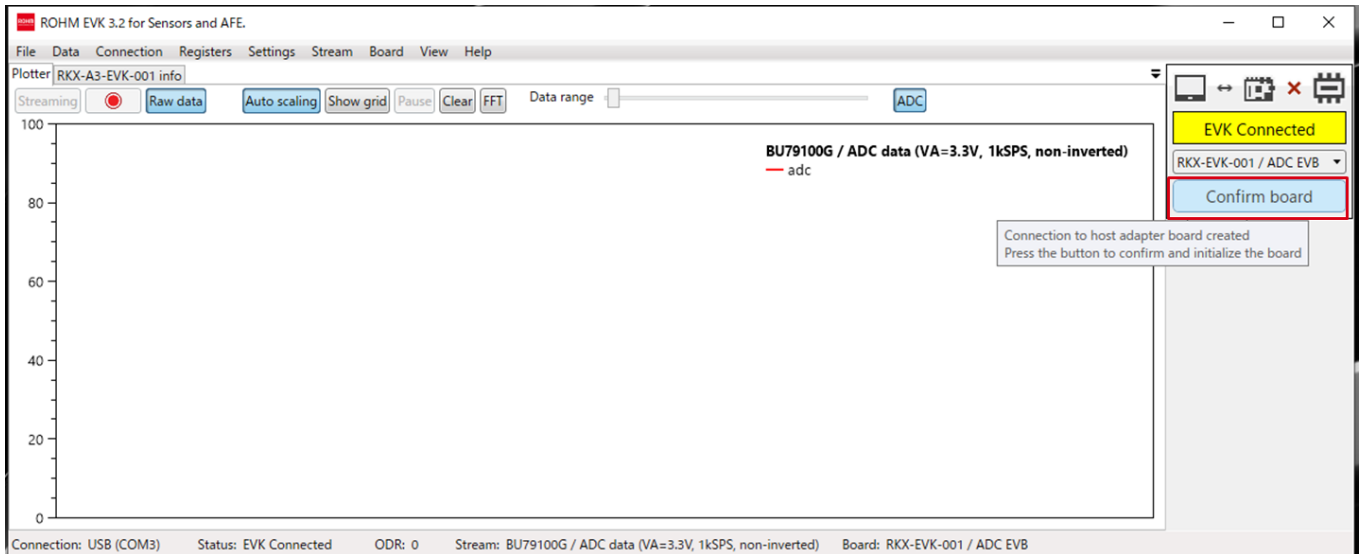

Figure 10. ROHM EVK GUI SW: “Confirm board” button
- Click “Confirm board” button. (Figure 10)